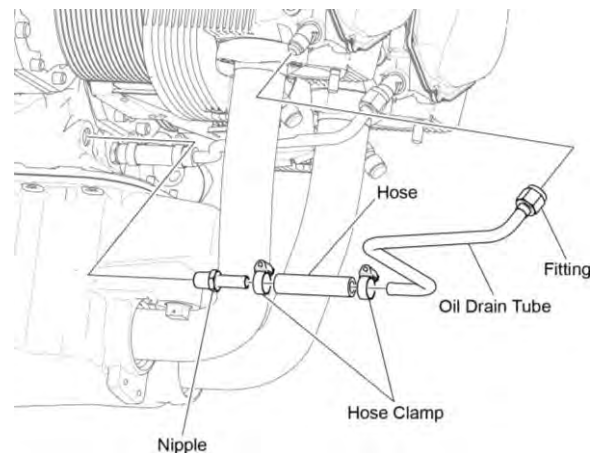

Figure 2
- D. Remove and discard the accessory housing gasket (Figure 2).
- D. Place a new accessory housing gasket (Figure 2) over the locating dowels on the rear of the crankcase.
- (1) Remove and discard the hose clamps (Figure 2).
- (2) Disconnect the oil drain tube fitting from the engine cylinder.
- (3) Remove and discard the hose (Figure 2).
- (4) Remove the oil drain tube from the cylinder.
- (5) Examine the oil drain tube for cracks or damage.
- (6) Replace a cracked or damaged oil drain tube.